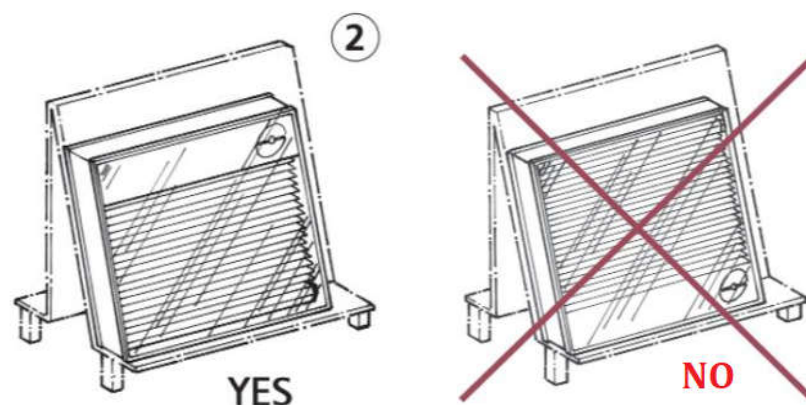

Fig. 2. Positioning of the head rail of tilting-ONLY blinds during transportation
4. Tilting-only blinds must be transported with the head rail at the top, and with the slats in the open position, in order to avoid the blind collapsing (Fig. 2).